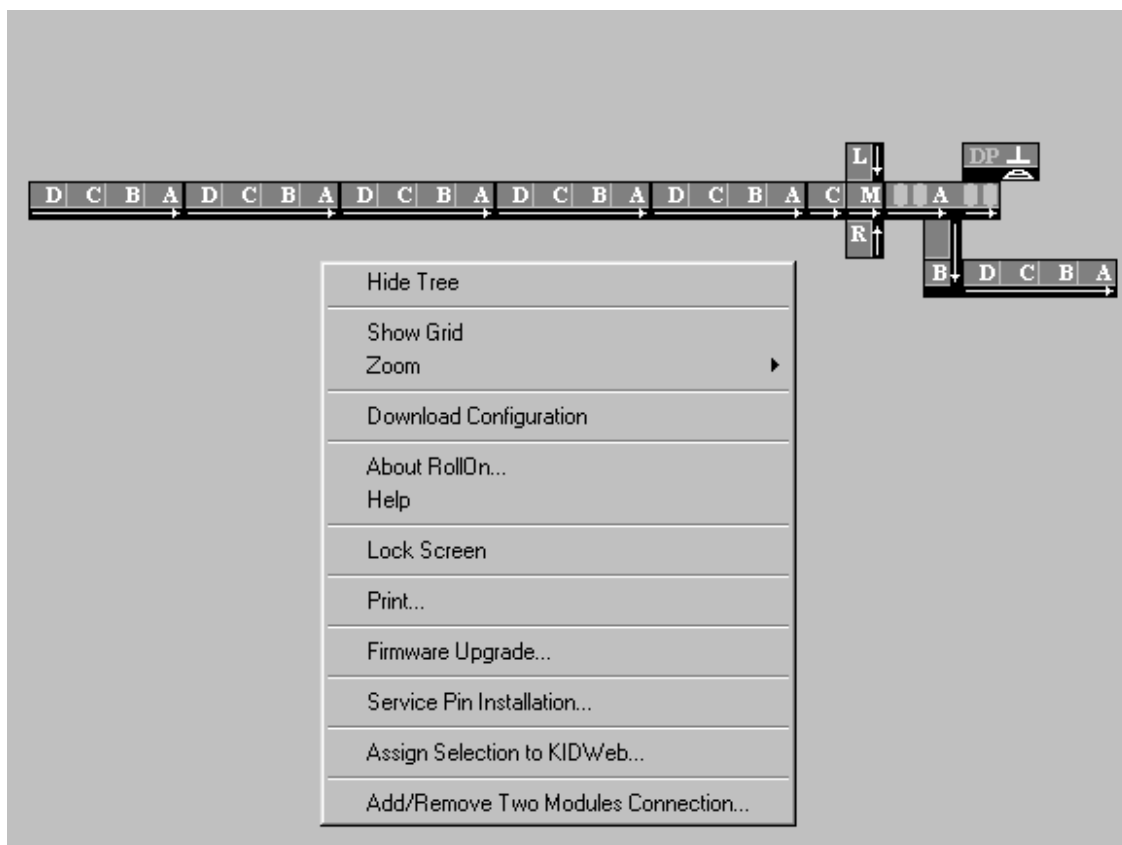

Fig. 4.41
- Right-click on the design field to open the options drop-down box – Fig. 4.41.
- Call again the option drop-down box – Fig. 4.41.
Reference is made on **About RollOn...** menu item of the drop-down menu box shown in Fig. 4.41 (called by Right-click on the project field of the screen).
Reference is made on **Download Configuration** menu item of the drop-down menu box shown in Fig. 4.41 (called by Right-click on the project field of the screen).
Reference is made on **Help** menu item of the drop-down menu box shown in Fig. 4.41 (called by Right-click on the project field of the screen).
Reference is made on the drop-down menu box shown in Fig. 4.41 (called by Right-click on the project field of the screen).